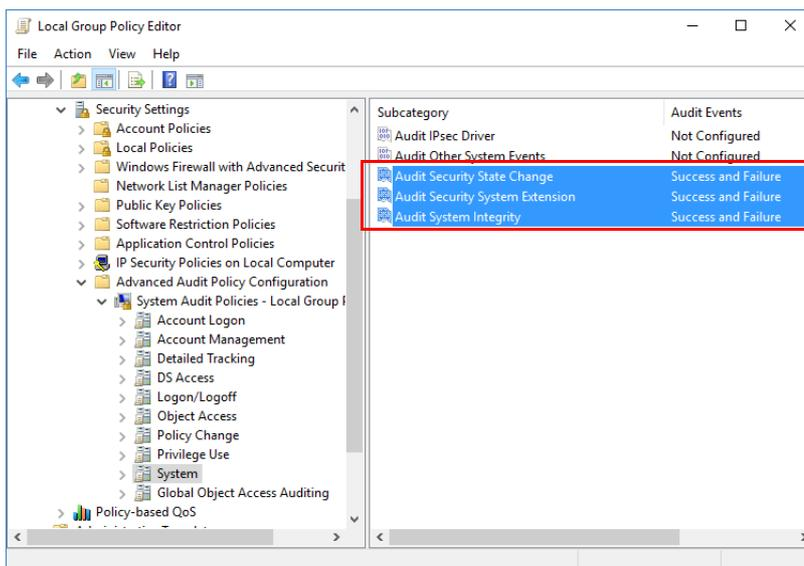

Figure 2-61. System setting
8. Set these properties for System, see Figure 2-61.